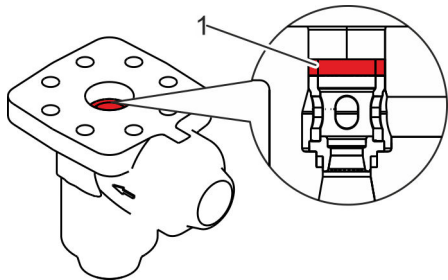

Fig. 23: Removing the cover gasket
8. ➤ Remove the cover gasket (Fig. 23/1).